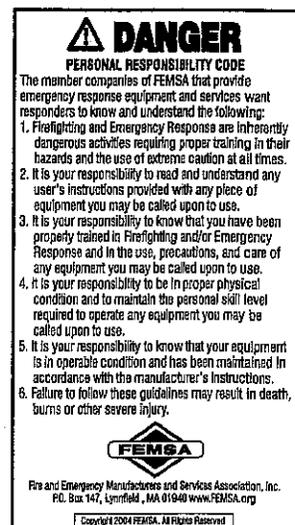

FIG. 1
7. Have you read, do you understand, and do you assume the risks and responsibilities listed in the Personal Responsibility Code? See FIG. 1 and back cover of this Guide.